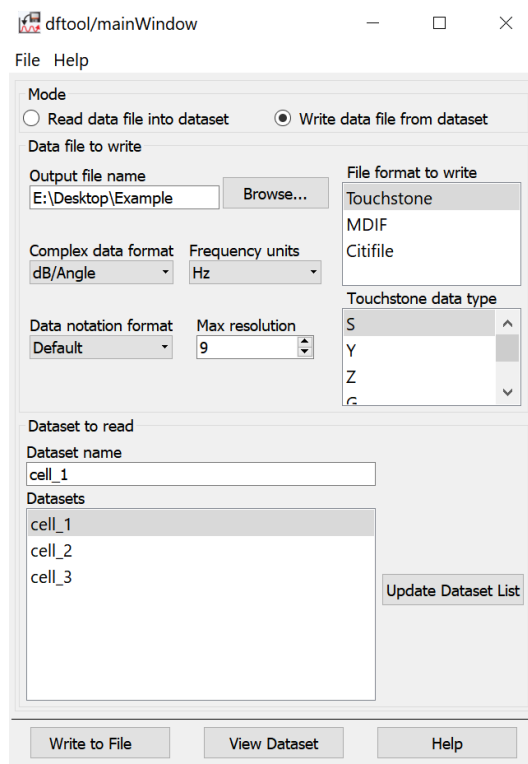

Figure 9: Data File Tool.
- To save the simulation results you just ran, click Tools → Data File Tool. Select *Write data file from dataset* and choose *Sparam1* as the dataset to read from. Save the 2-port s-parameter file (.s2p) in *dB/Angle* format. Confirm by clicking *Write to File* (Figure 9).